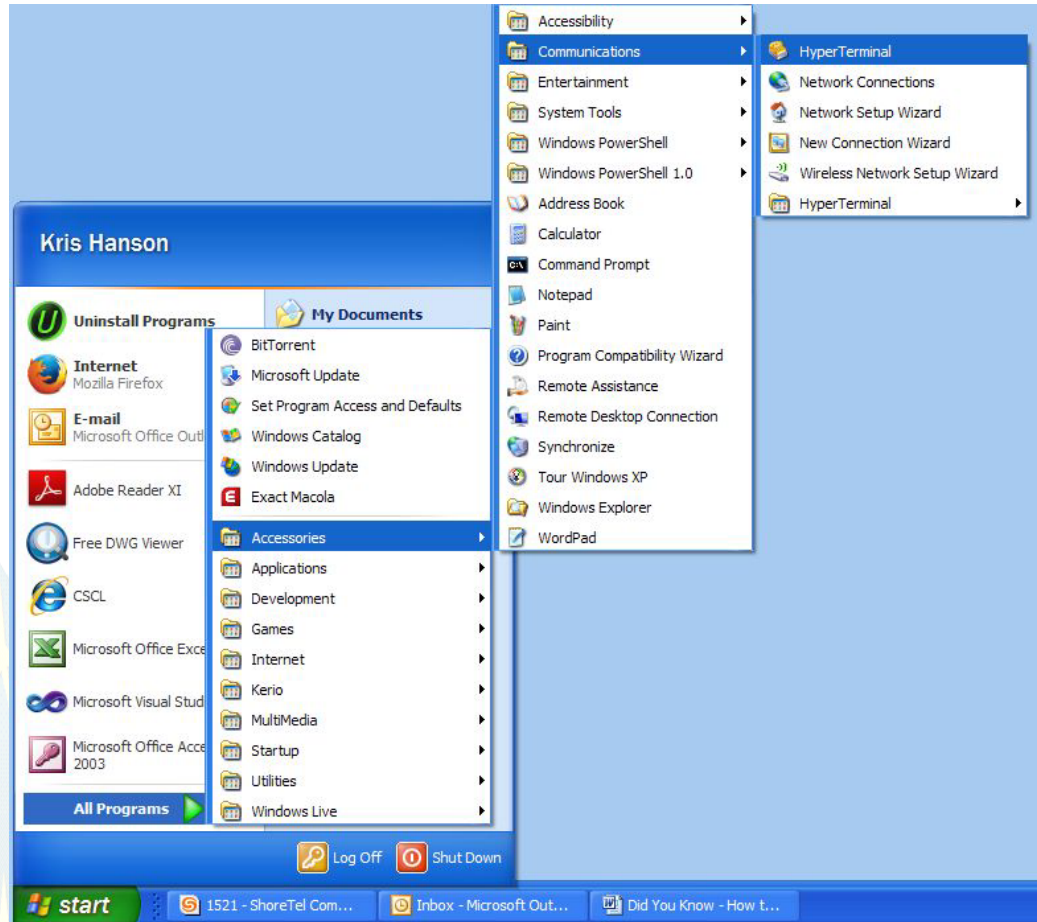

Figure 1 Navigating to HyperTerminal Using the Desktop Menus
10. Select "HyperTerminal" by placing the mouse pointer on the "HyperTerminal" label and left clicking once (See Figure 1 Navigating to HyperTerminal Using the Desktop Menus)